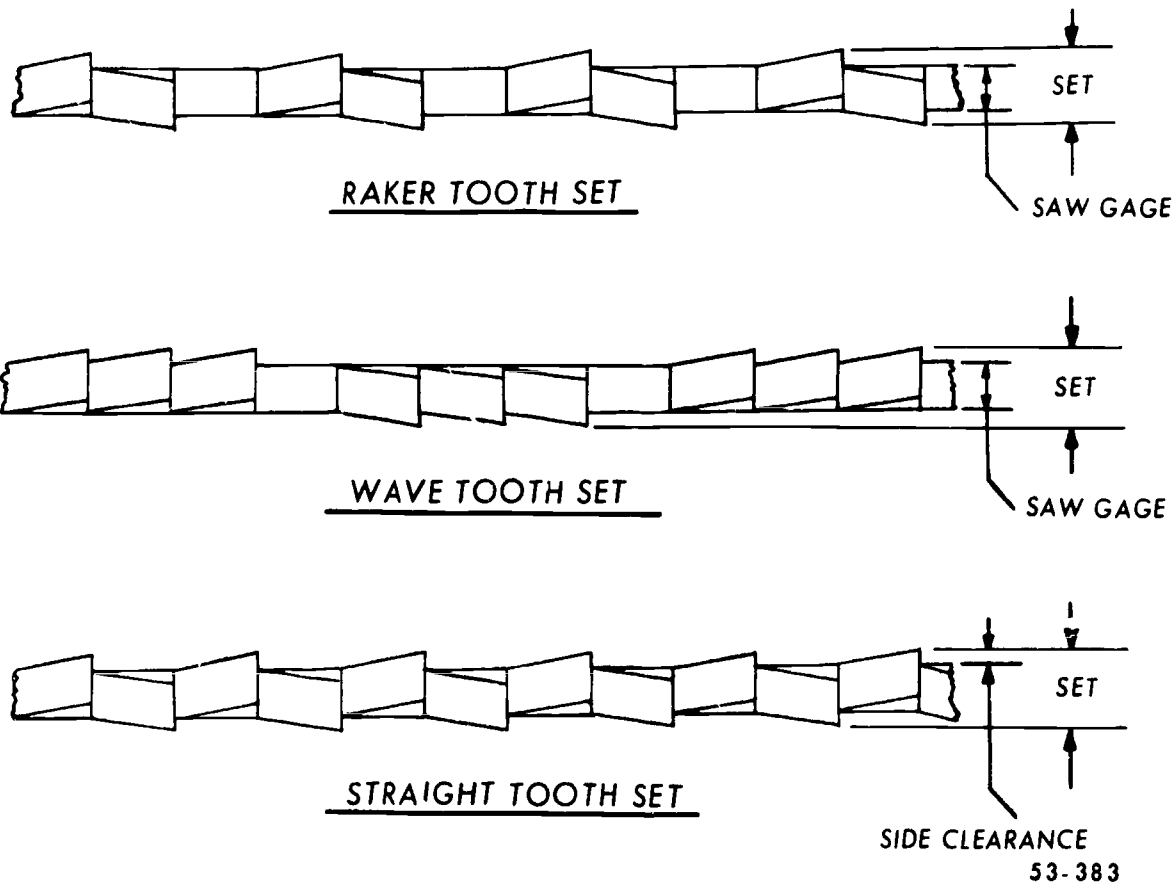

Figure 3-6. Set patterns.
teeth are set. There are three set patterns: (1) raker, (2) wave, and (3) straight, as shown in figure 3-6.